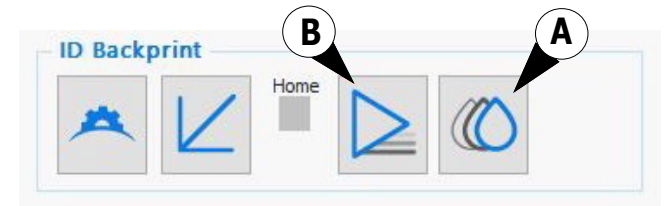

Figure 10-3 ID Backprint Software
1. Click the Purge icon (Figure 10-3, A).
4. After cleaning the cartridge, test it by choosing the Test Print icon (Figure 10-3, B) to activate the ID Backprint function.